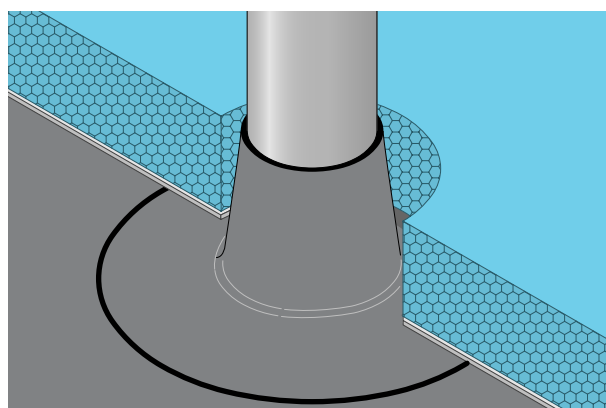

Figure 16
5. Fit ROOFMATE SL-X boards neatly around penetrations (Figure 16). Cut boards with a sharp knife or fine toothed saw.